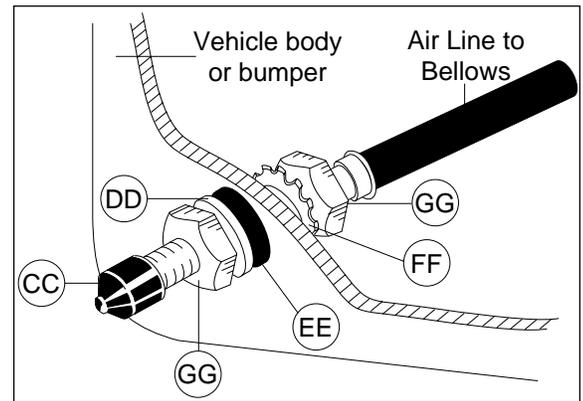

Figure 11
4. Place a $\frac{5}{16}$ " nut (GG) and a star washer (FF) on the air valve. Leave enough of the valve in front of the nut to extend through the hole and have room for the rubber washer (EE), flat washer (DD), and $\frac{5}{16}$ " nut (GG) and cap (CC). There should be enough valve exposed after installation - approximately $\frac{1}{2}$ " - to easily apply a pressure gauge or an air chuck (Figure 11).
5. Push the inflation valve through the hole and use the rubber washer (EE), flat washer (DD), and another $\frac{5}{16}$ " nut (GG) to secure it in place. Tighten the nuts to secure the assembly in place (Figure 11).